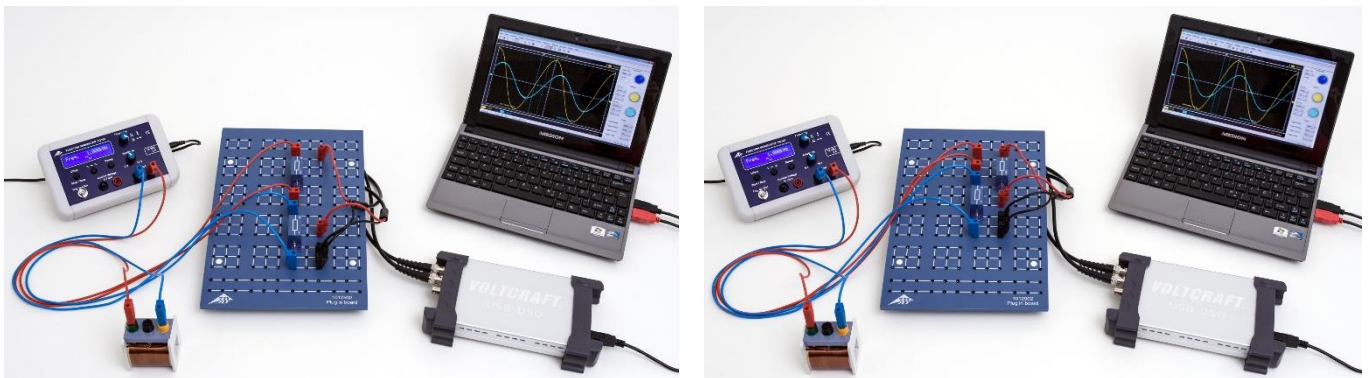
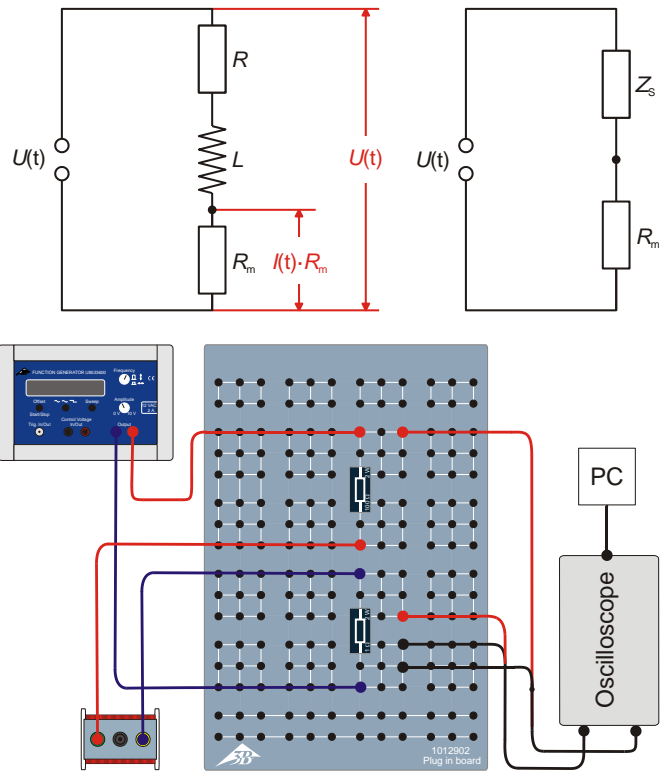
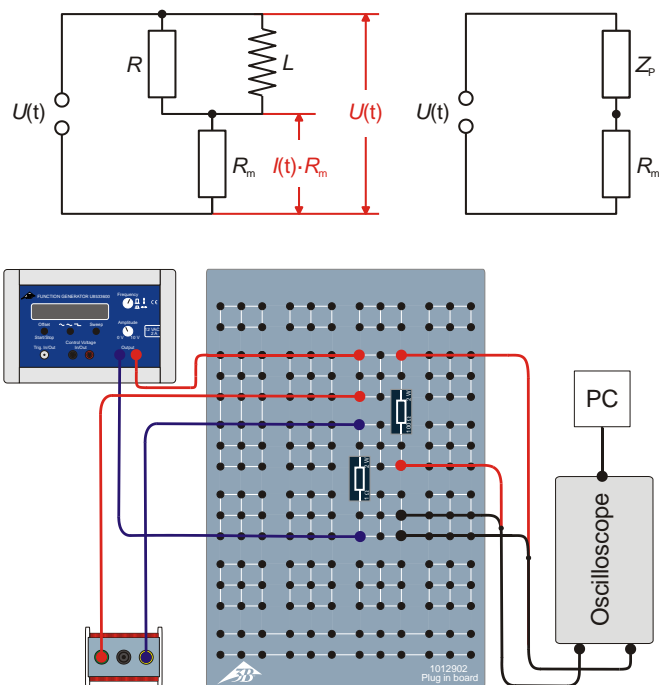

Fig. 1: Measurement set-up for series circuit (left) and parallel circuit (right).
Fig. 2: Circuit diagram (top left), equivalent circuit (top right) and schematic sketch of set-up (below) for series circuit.
Fig. 3: Circuit diagram (top left), equivalent circuit (top right) and schematic sketch of set-up (below) for parallel circuit..
In this experiment this will be measured by finding the drop in voltage $U_m(t)$ across a load resistor R_m (Fig. 2, 3), which is of such a value that $U_{m0} \ll U_0$, i.e. nearly all of the voltage drops across Z_S or Z_P . The current obtained in this way flows through Z_S and through Z_P since both these resistors are in series with R_m (see equivalent circuit diagram in Fig. 2, 3). Since $U_m(t) = I(t) \cdot R_m$, the change in voltage over time $U_m(t)$ will also be reflected in the change in current over time $I(t)$.
- Assemble a set-up for measurement of the series circuit (as in Fig. 1, left) in accordance with the sketch of the circuit diagram (Fig. 2) in which $R_m = 10 \Omega$, $C = 1 \mu F$ and the coil has $N = 1200$ turns and inductance $L = 23.0$ mH.
- Assemble a set-up for measurement of the parallel circuit (as in Fig. 1) in accordance with the sketch of the circuit diagram (Fig. 3) in which $R_m = 10\ \Omega$, $C = 1\ \mu\text{F}$ and the coil has $N = 1200$ turns and inductance $L = 23.0\text{ mH}$.